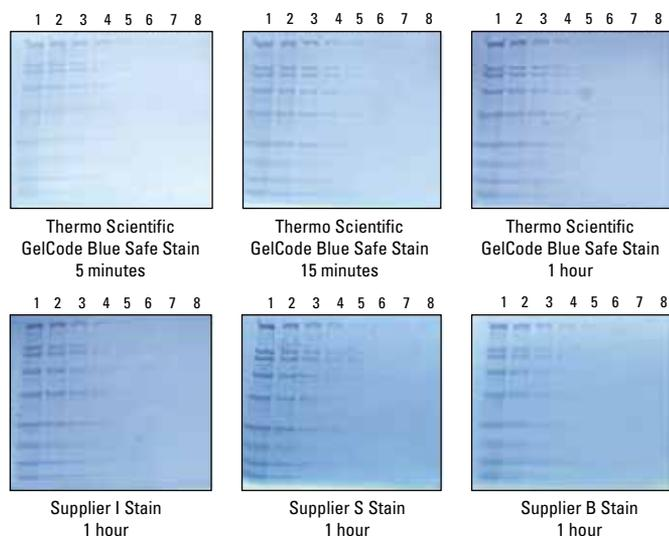

Figure 4. Thermo Scientific GelCode Blue Safe Protein Stain protocol.
- **Sensitive** – detect down to 9 ng of protein/band using a standard protocol (Figures 4 and 5)